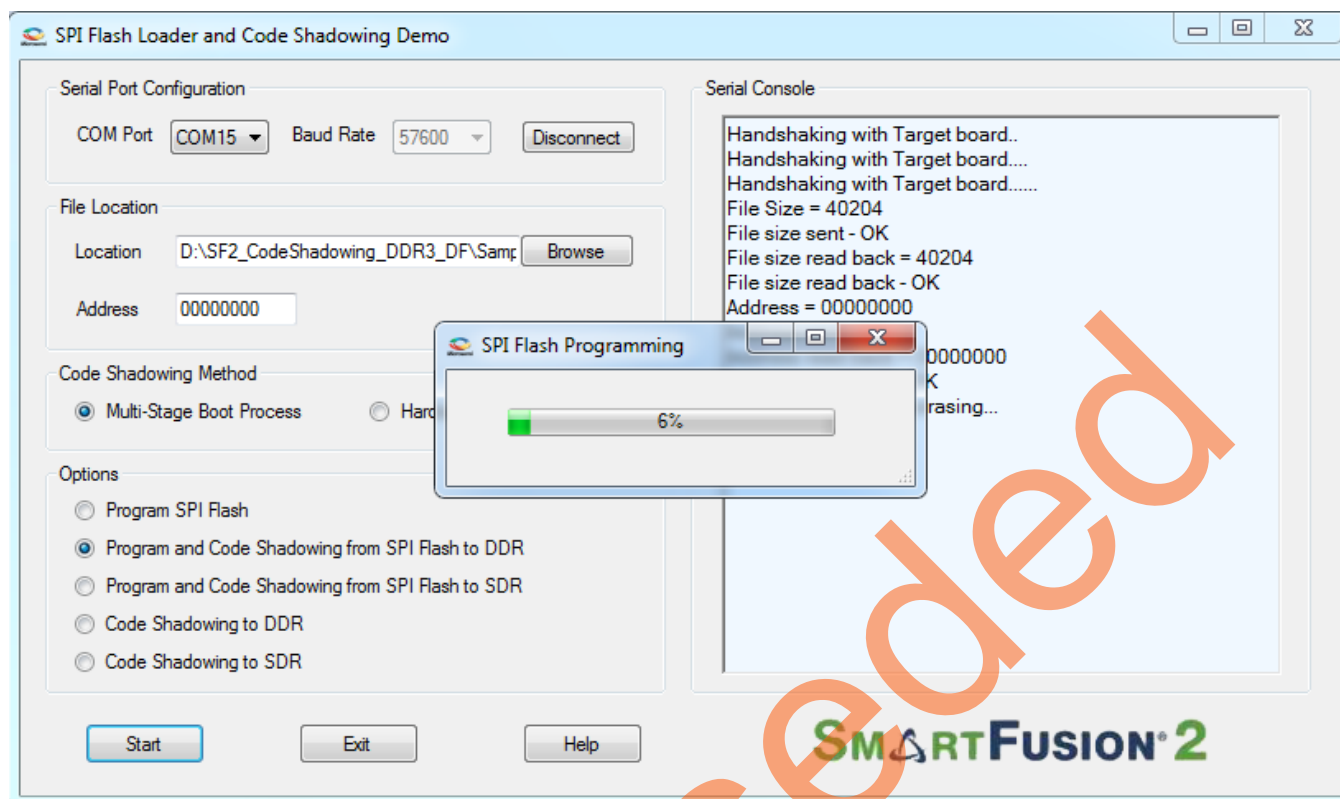

Figure 11. Flash Loading
11. The Serial Console section on the GUI shows the debug messages and starts programming SPI flash on successfully erasing the SPI flash. The GUI shows the status of SPI flash writing, as shown in Figure 11.